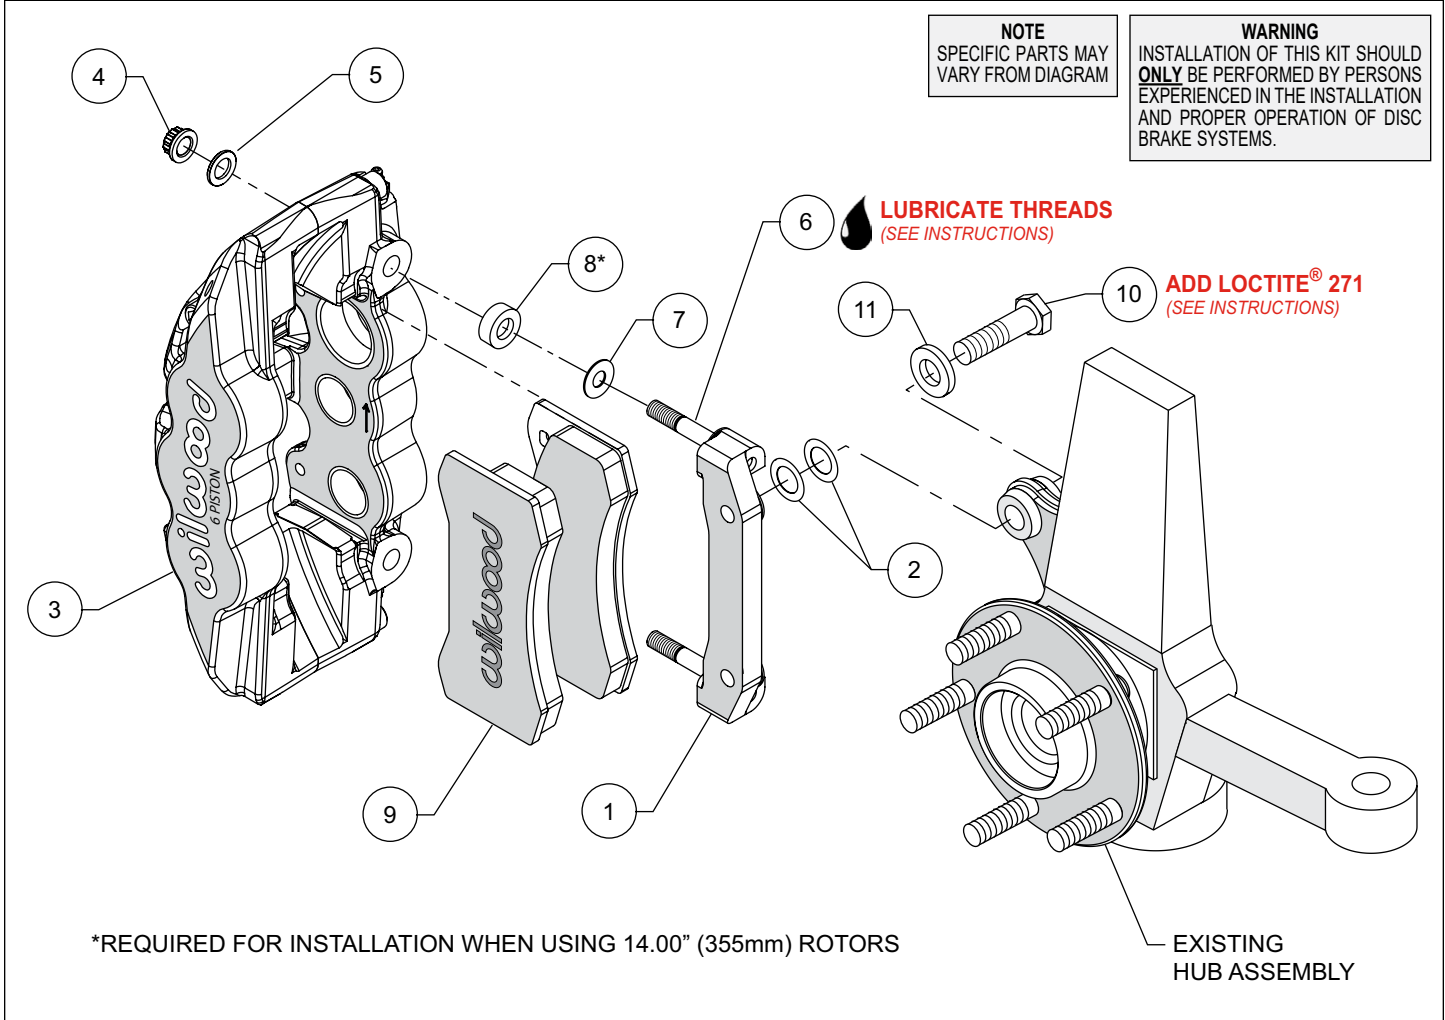

Figure 1. Typical Installation Configuration
Assembly Instructions (numbers in parenthesis refer to the parts list and Figure 1 on the preceding page):
- The caliper mount bracket (1) should initially be installed with clean, dry threads on the mounting bolts. Orient the bracket as shown in Figure 1, and install using bolts (10) and washers (11). Initially place two .029" thick shims (2) on each bolt between the bracket and upright, Figure 1. Temporarily tighten the mounting bolts. **NOTE: The bracket must fit squarely against the mount bosses on the upright.** Inspect for interference from casting irregularities, machining ridges, burrs, etc. Later, after the caliper alignment has been checked, the mount bolts will be secured using red *Loctite*® 271.
- **NOTE: This kit contains distinct right and left hand calipers that must be mounted in a specific direction, as described below.** Lubricate the caliper mounting studs (6) with lightweight oil. For 13.38" diameter rotors, initially place one .016" thick shim (7) on each stud as shown in Figure 1 and Photo 1. For 13.98" rotors, place one .300" spacer (8) on each stud prior to installing the .016" thick shim (7). Mount the caliper (3) onto the bracket (1) using lock nuts (4) and washers (5), Figure 1. Ensure that the caliper is mounted so that the largest pistons are at the rotor exit end of the caliper, in relation to the direction of rotor rotation. Temporarily tighten the lock nuts and view the rotor through the top opening of the caliper. The rotor should be centered in the caliper, Photo 2. If not, adjust by adding or subtracting shims (2) between the bracket and the upright. Always use the same amount of shims on each of the two mounting bolts. Once the caliper alignment is correct, remove the bracket mounting bolts one at a time, apply red *Loctite*® 271 to the threads, and torque to 65 ft-lb.
- Remove the two pad retaining pins from the caliper (3) by carefully popping out the pin retaining clips and sliding out the pins. Insert the brake pads (9) into the caliper from the bottom, Figure 1 and Photo 3. With the friction material facing the rotor, secure the brake pads in place with the pad retaining pins and clips, Photo 4. Reinstall the caliper onto the caliper mounting bracket and temporarily tighten the lock nuts. Check that the top